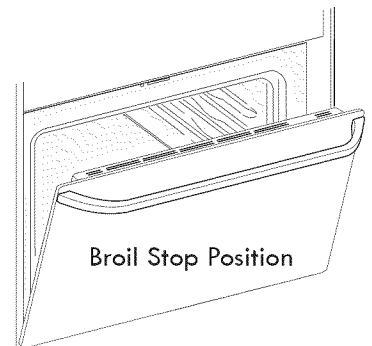

Figure 2
6. Place the pan on the oven rack. **Open the oven door to the broil stop position** (See Fig. 2).